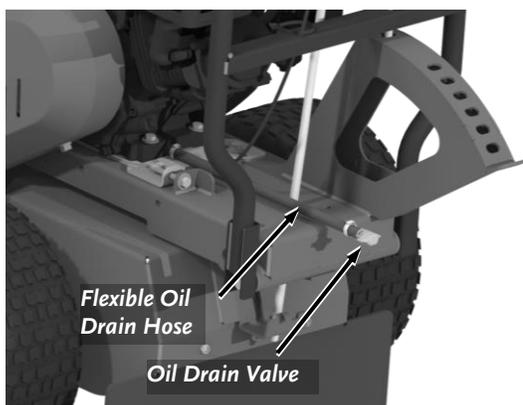

Figure 16
1. Position the machine so the Frame and Engine are level and place a Waste Oil Container under the Oil Drain Valve (**Figure 16**).